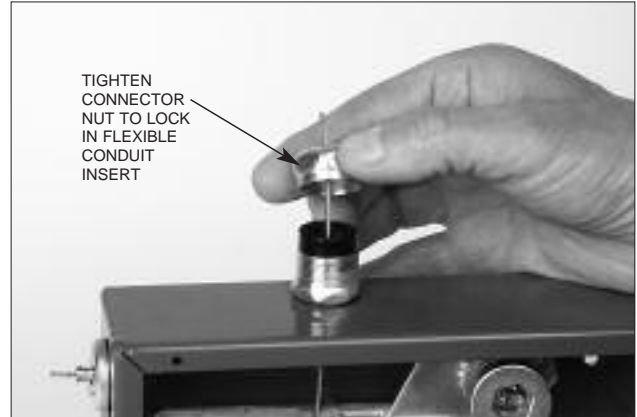

FIGURE 5
5. Tighten the nut to the connector body, locking the flexible conduit insert in place. See Figure 5.